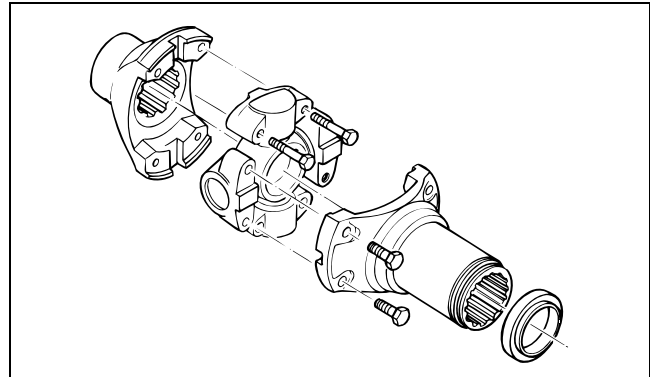

Figure 6.1
2. Loosen and remove the four capscrews retaining the universal joint cross to the slip yoke. Figure 6.1.
3. Install the four capscrews and lock washers that attach the universal cross to the end yoke. Figure 6.1.